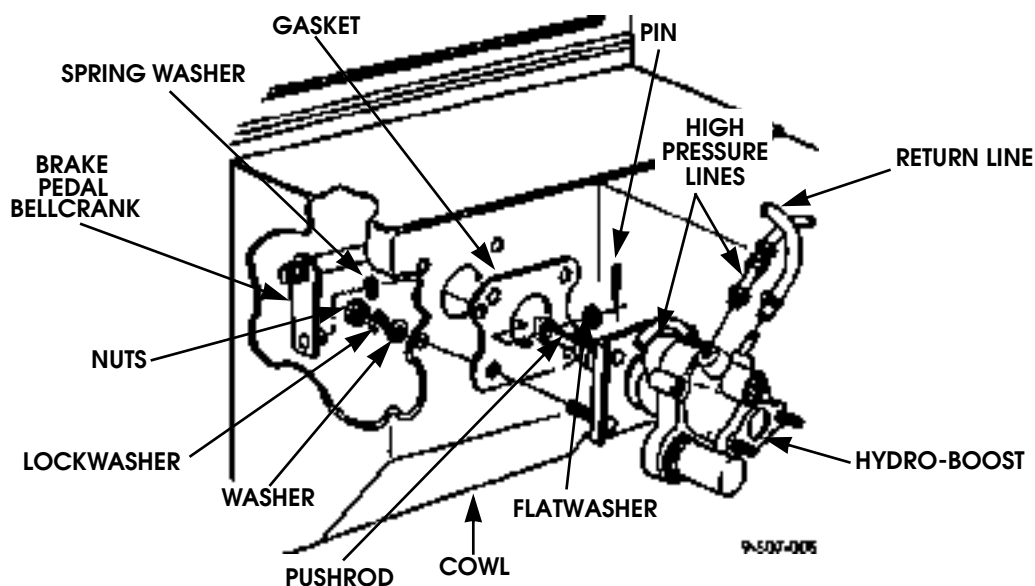

Figure 7-10: Hydro-boost Replacement Procedure
4. Disconnect two high pressure lines and one return line from hydro-boost (Figure 7-10).
1. Install gasket and hydro-boost on cowl with four washers, lockwashers, and nuts. Do not tighten nuts. (Figure 7-10).